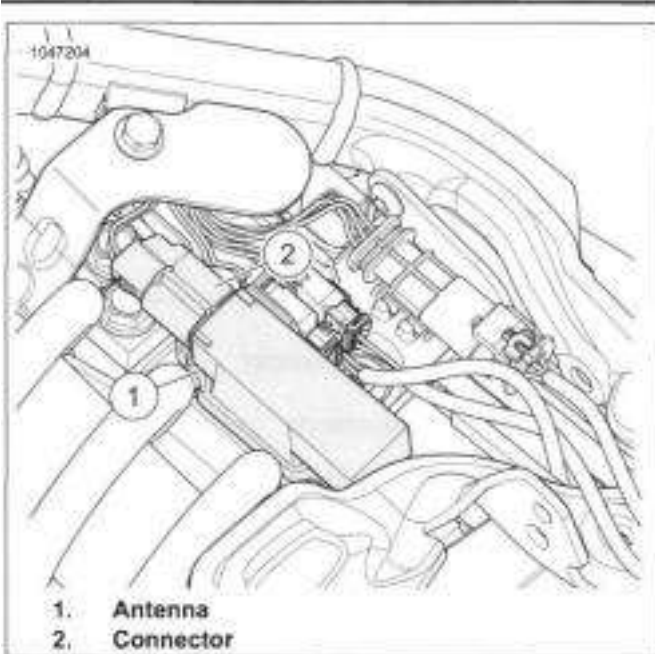

Figure 7-128. Security Antenna
1. See Figure 7-128. Remove antenna (1).
- b. Disconnect connector (2).
1. See Figure 7-128. Install antenna (1).
- a. Connect connector (2).